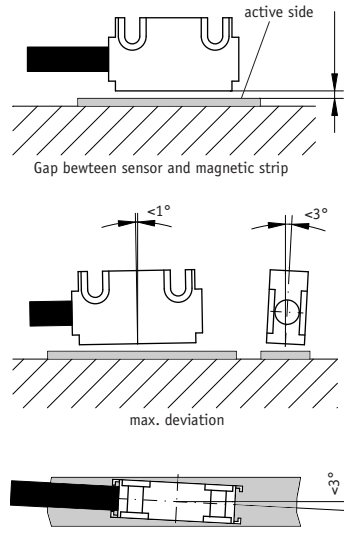

Fig. 7: Mounting of sensor
- When mounting the magnetic sensor, ensure that the gap between strip & sensor and the max. admissible deviation are maintained over the total measuring length! (see fig. 7)